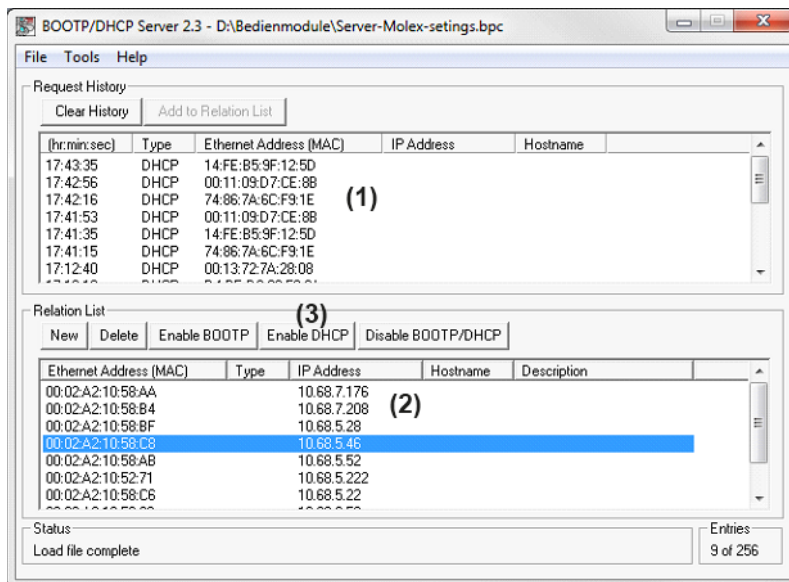

Fig. 6.33: BOOTP/DHCP server with list of IP addresses
The assigned IP addresses are displayed in the list (2) (Relation List). (Fig. 6.33).